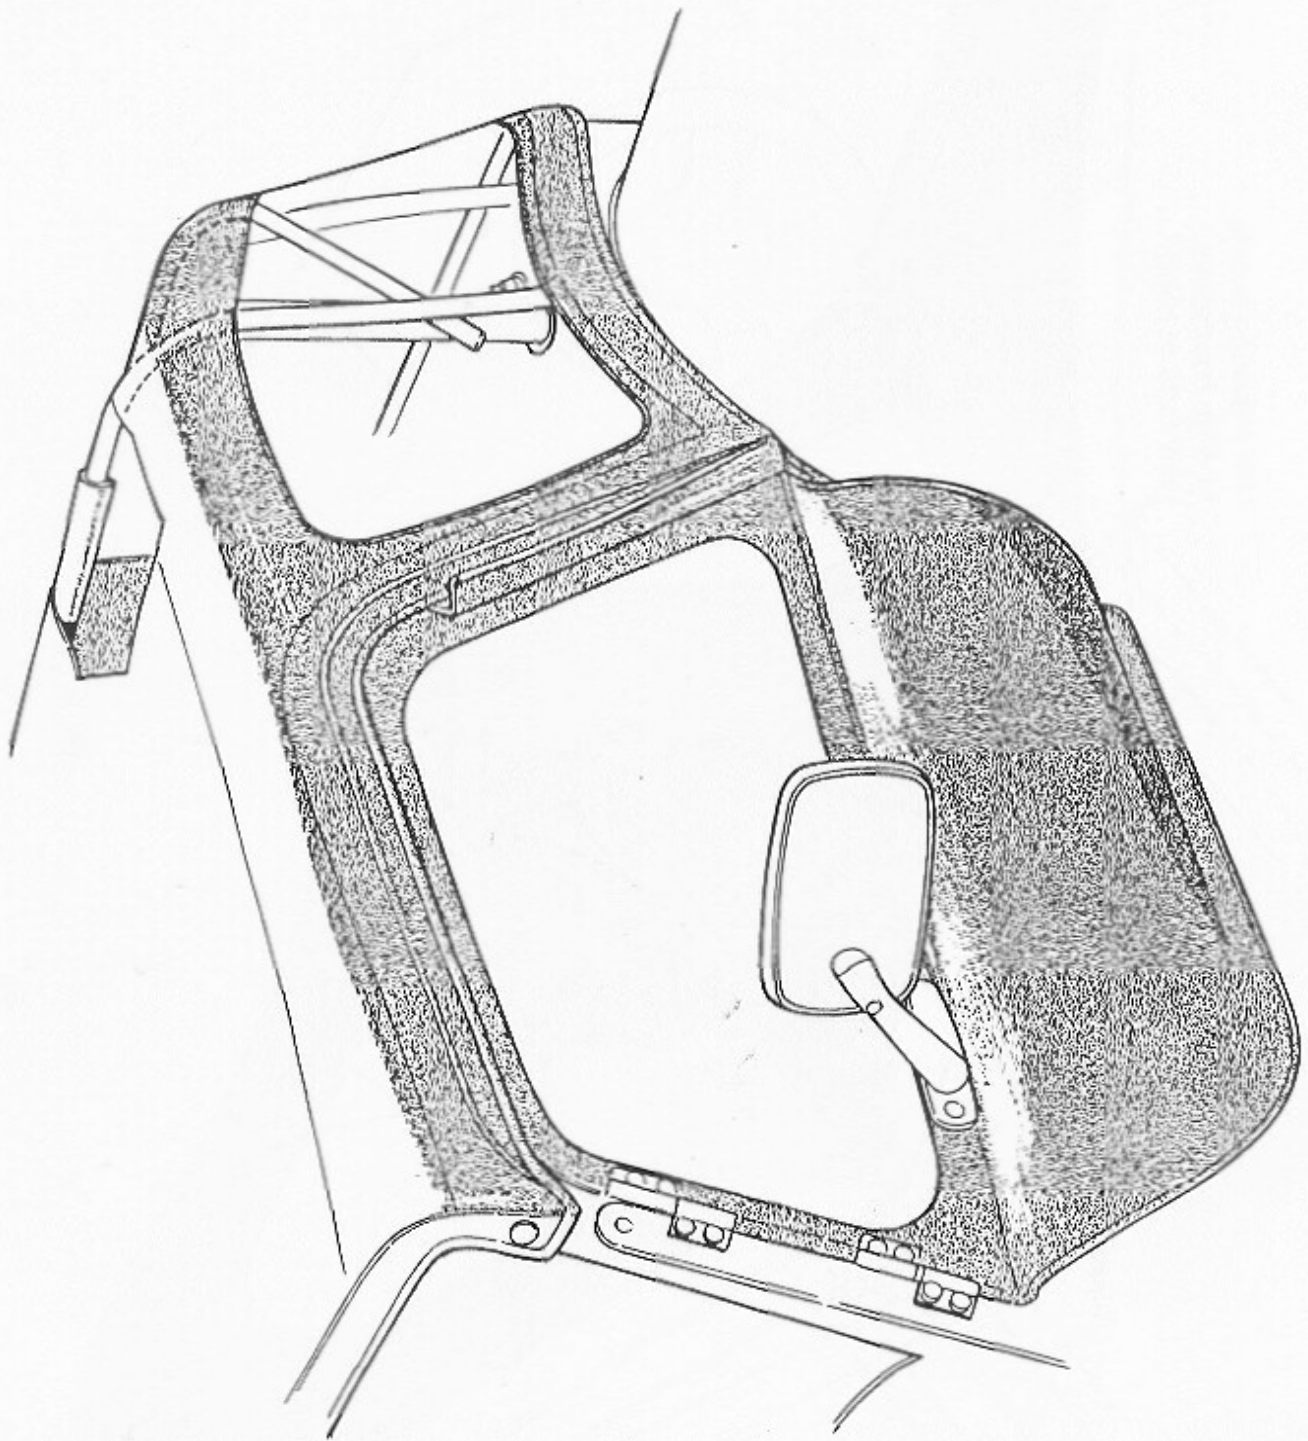

Figure 13.4 Increased Visibility Hood and Sidescreens
4.2 The fitment of the hood is exactly as described in 13.1 to 13.3 the only difference being an enlarged side screen aperture and the addition of a sleeve fastened with Velcro to hold the hood to the top hoodstick (see Fig 13.4).